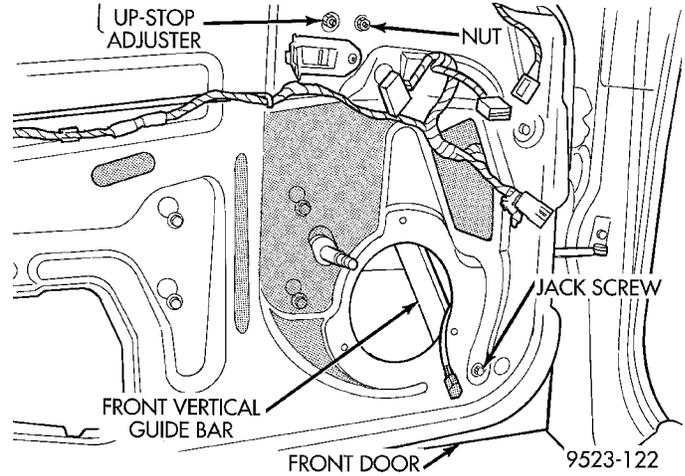

Fig. 24 Front Vertical Guide Bar
- (1) Remove door trim panel and water shield.
- (2) Remove door speaker, if equipped.
- (3) Remove front lift guide.
- (4) Remove bolt holding top of front guide bar to inner door panel.
- (5) Using a Snap-on® flare-nut socket (FRXM10) and a hex wrench, remove nut holding bottom of guide bar to door panel while holding jack screws. (Fig. 24)